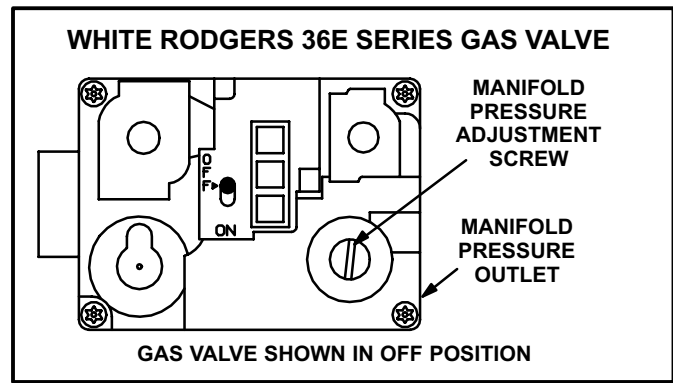
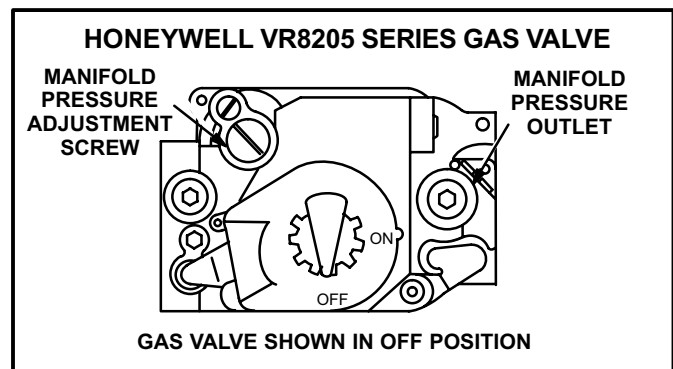

FIGURE 16
FIGURE 18
## 13. Gas Valve (GV1) Figures 16, 17 & 18
- 6 - *White Rodgers Gas Valve* -- Switch lever to **OFF**. See figure 16. *Honeywell Gas Valve* -- Turn knob on gas valve clockwise  to **OFF**. Do not force. See figure 18.
- 1 - Connect a test gauge to outlet pressure tap on gas valve. See figures 16, 17 and 18. Start unit and allow 5 minutes for unit to reach steady state.